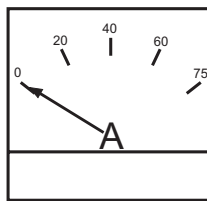

Figure 70. Ammeter (No Load)
13. The ammeter (Figure 70) will indicate zero amps with no load applied. When a load is applied, this meter will indicate the amount of current that the load is drawing from the generator's alternator.